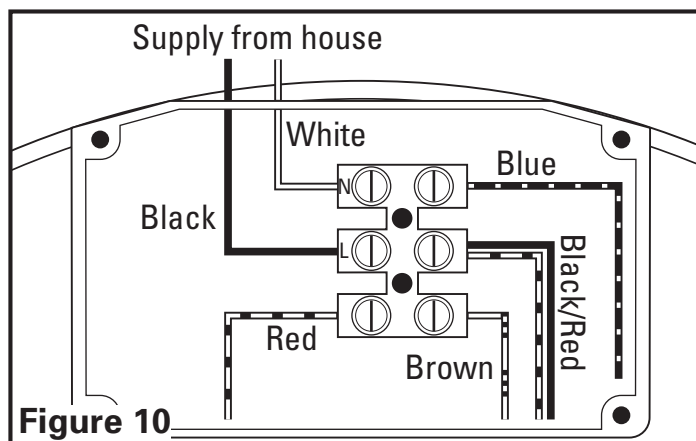

Figure 10
3. Insert the white wire from the house into the terminal strip port labeled "N" and tighten using a small regular screwdriver. Insert the black wire from the wall switch into the terminal strip port labeled "L" and tighten using a small regular screwdriver. Since the motor is isolated within a plastic housing, grounding is not necessary (Figure 10).